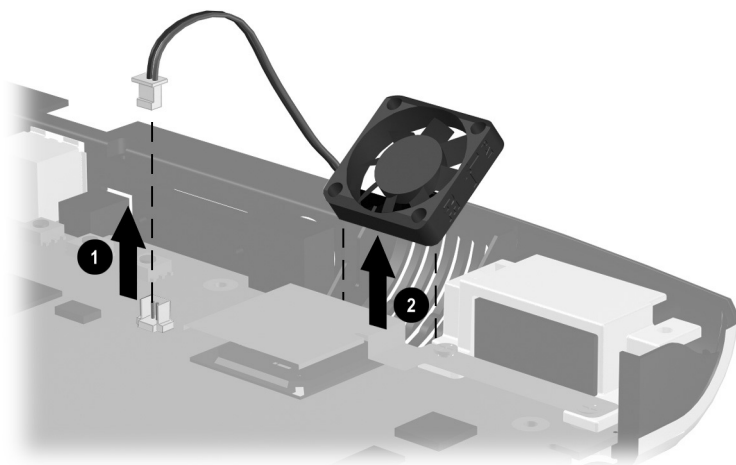

Figure 5-31. Removing the Fan
2. Disconnect the fan cable ❶ from the audio board (Figure 5-31).
3. Lift the fan straight up ❷ and remove it from the base enclosure.